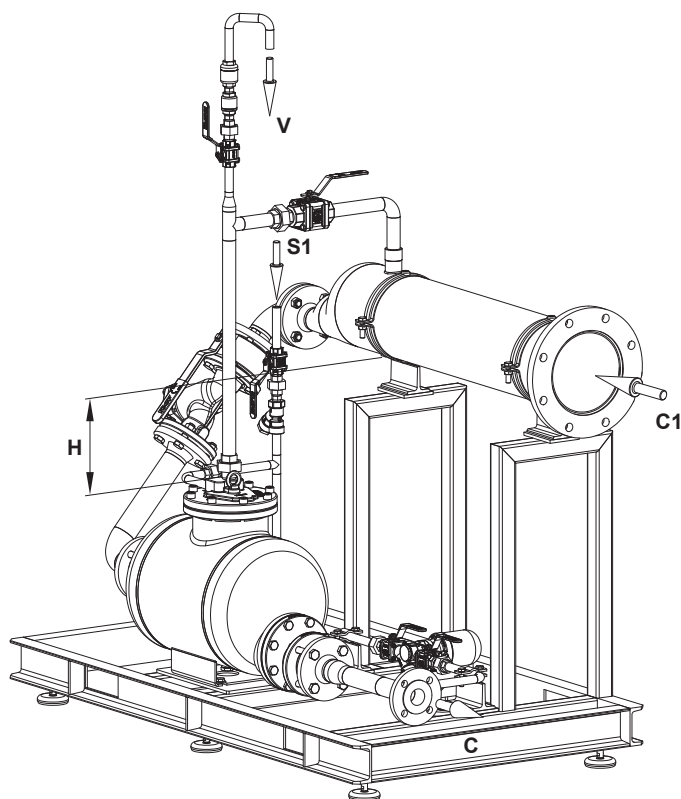

Fig. 1
Remark: Filling head "H" is shown in Fig. 1.
7. Available filling head (H) in mm or any other dimension that allows its determination. See Fig. 1.